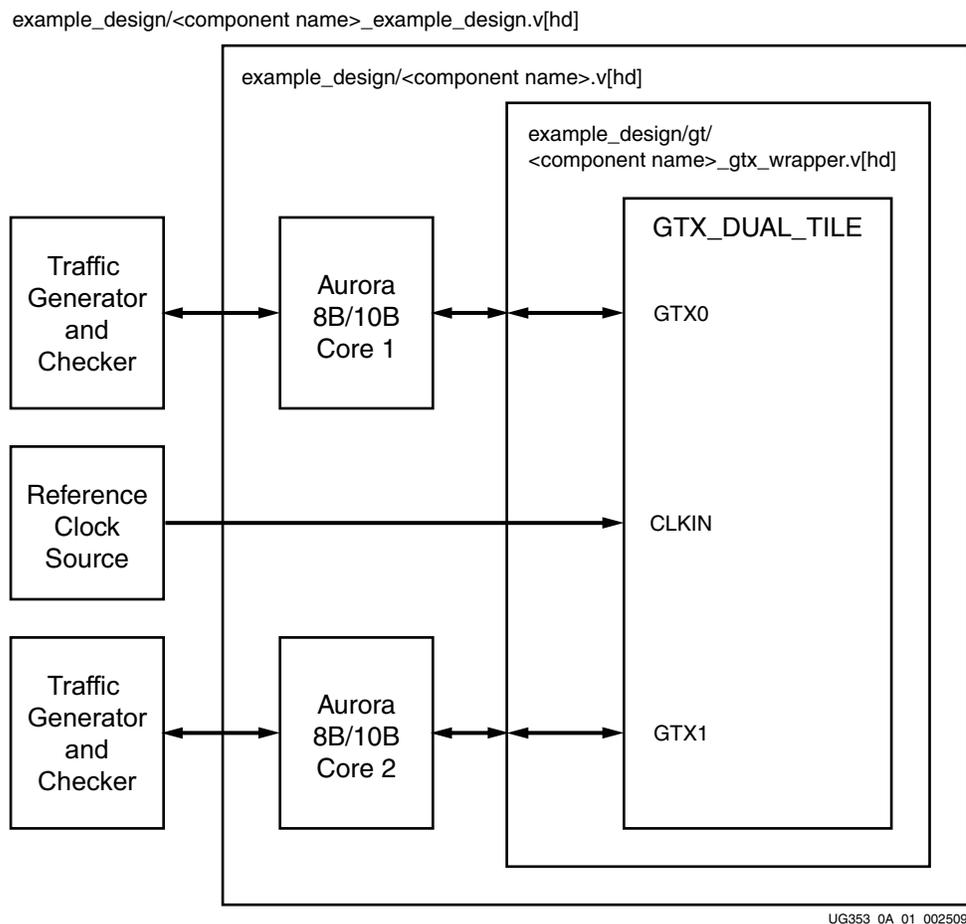

Figure A-1: Example Showing Two Single Lane Aurora 8B/10B Cores Sharing a Transceiver Tile in the Virtex-5 Family
The Aurora 8B/10B core instantiates the GTX_DUAL primitive in <component name>_tile.v[hd] file located in <component name>/example_design/gt/. This file contains GTX0 and GTX1 specific ports together with shared tile ports. This file is hierarchically called in <component name>_gtx_wrapper.v[hd]. The user needs to bring out unused transceiver ports to the <component name>_gtx_wrapper.v[hd] file that is instantiated in the Aurora 8B/10B core's top level file. See Figure A-1, page 115 for the file level hierarchy of the Aurora 8B/10B core.
The Aurora 8B/10B core automatically sets shared PLL ports and attributes based on the CORE Generator™ software options. The reference clock input and the GTX transceiver reset to a tile is driven from the example design. The Aurora 8B/10B core derives the clock from TXOUTCLK0/1 and based on GTX0 or GTX1 selection, TXOUTCLK0 or TXOUTCLK1 is fed to the PLL input for generating the core's clock. The user can use the same TXOUTCLK source used in core 1 (See Figure A-1, page 115), or optionally can use the other TXOUCLK port for core 2. Because the reference clock and GTX transceiver reset ports are common for GTX0 and GTX1, application of the GTX transceiver reset resets both cores.
4. Map these new ports to another Aurora 8B/10B core (see core 2 in Figure A-1).
Figure A-1 shows two single lane Aurora 8B/10B cores sharing a tile in the Virtex-5 family.